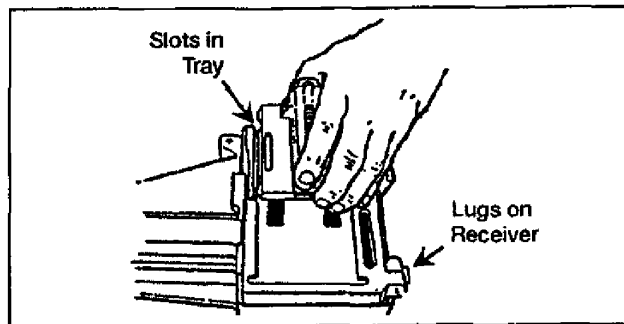

Figure 071-030-0001-19. Attachment of the feed slide assembly
- (1) Position the alignment guide assembly so the pin is lined up with the slot in the feeder wall.
- (2) Hold the alignment guide against the front wall and slide the alignment guide into the receiver until it clicks.
- e. Attach the feed tray and feed slide assembly (figure 071-030-0001-19).